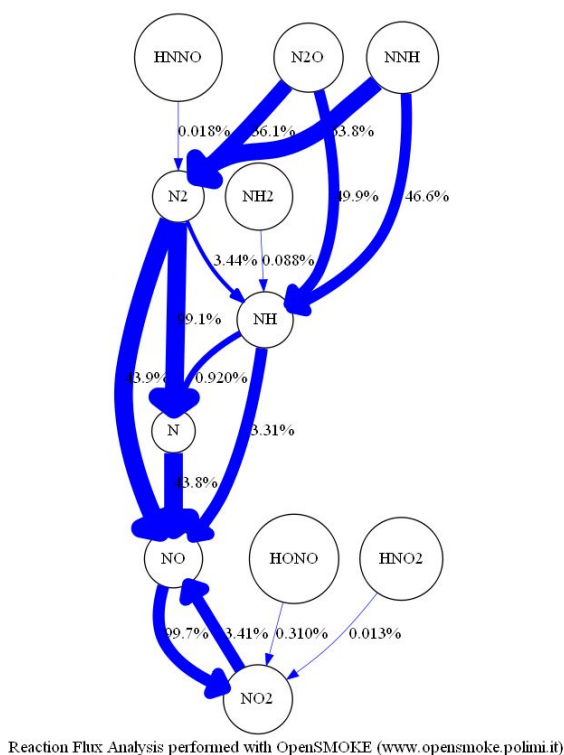

Figure 3.5: Adiabatic batch reactor: flux analysis (NO production, Element N, Depth 1, Width 4)
5. Eventually, you can also draw path diagrams through the **Flux Analysis** button (this feature is only available if you correctly installed Graphviz and Irfanview, as described in the previous Chapter). As an example, in the **Type** panel select the **Local** radio button and write 0.022 in the corresponding window (this is the time in seconds at which you want to perform the flux analysis). Select **N₂** from the **Species** list, **N** element from the **Element** list, and **Production** from the **Type** panel. If you click on the **Flux Analysis** button, you should get the flux diagram reported in Figure 3.5.